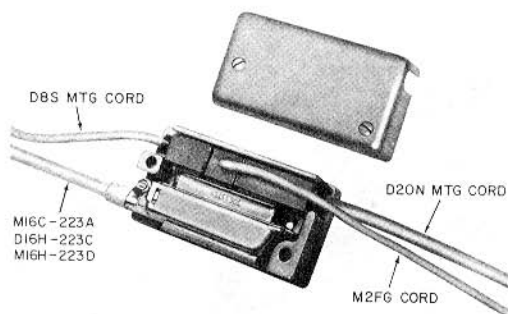

Fig. 6—223A (MD), 223C, or 223D Adapter
**F. 223A (MD), 223C, or 223D Adapters**
**2.17** The 223-type adapter (Fig. 6) interconnects the 680-type transmitter, the 108-type loudspeaker set, the 85B1 power unit and certain